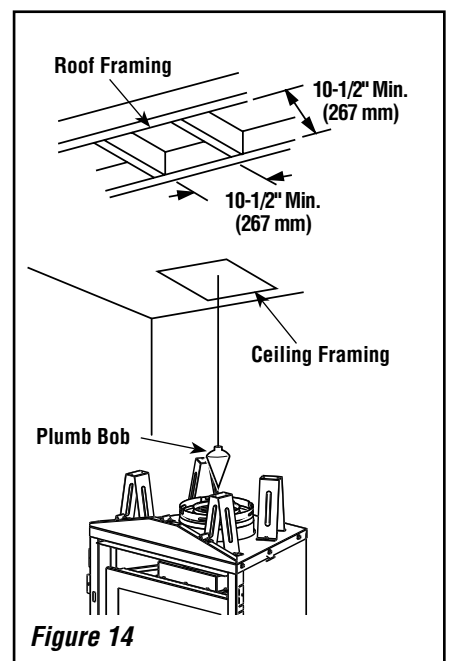

Figure 14
A. Frame ceiling opening - Use a plumb line from the ceiling above the appliance to locate center of the vertical run. Cut and/or frame an opening, 10-1/2" x 10-1/2" (267 mm x 267 mm) inside dimensions, about this center mark (**Figure 14**).
C. Frame ceiling opening - If the vertical route is to penetrate a ceiling, use plumb line to locate the center above the appliance. Cut and/or frame an opening, 10-1/2" x 10-1/2" (267 mm x 267 mm) inside dimensions, about this center (refer to **Figure 14 on Page 13**).